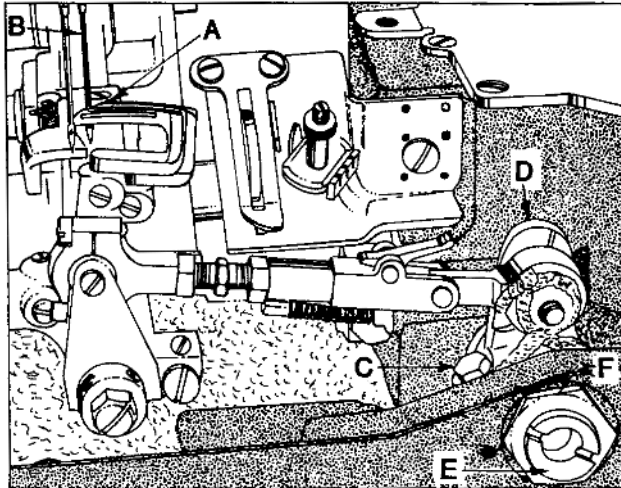

**Fig. 3**
Insert a new set of needles (type and size required). Turn handwheel to bring needle bar (A, Fig. 3) down to ensure that needles center in needle holes of throat plate as shown in Fig. 3. Adjustment can be made by loosening screw (B) slightly, allowing needle bar to be turned as required. Tighten clamp screw.
The height of the needle is correct when the top of its eye is 1/64 to 1/32 inch (.4 - .8mm) below the underside of the looper, when the looper point flush with the left side of the needle as shown in Fig. 5. If adjustment is necessary, loosen screw (B, Fig. 3) and move needle bar (A) up or down as required and retighten screw. Care should be taken not to disturb alignment of needle bar when moving the needle bar either up or down. The descending needles must be deflected alike on the back of the loopers.